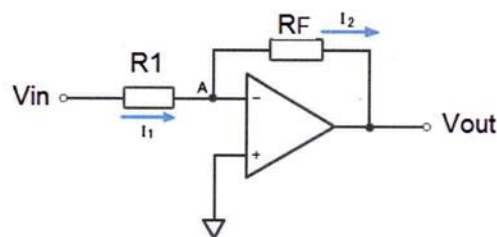

Figure 3: Device
17. Which type of device is shown in figure 3 and what is the absolute gain if  $R1 = 2\text{ k}\Omega$  and  $RF = 20\text{ k}\Omega$ ?